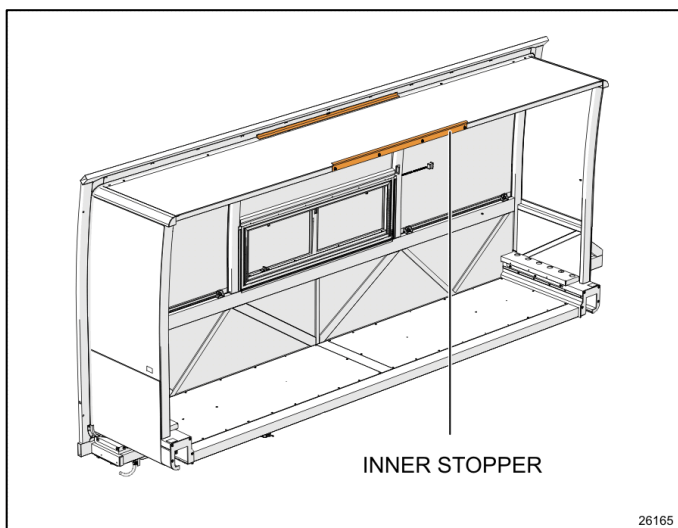

FIGURE 4: UPPER INNER STOPPER
4. Remove the upper inner stopper (Figure 4).